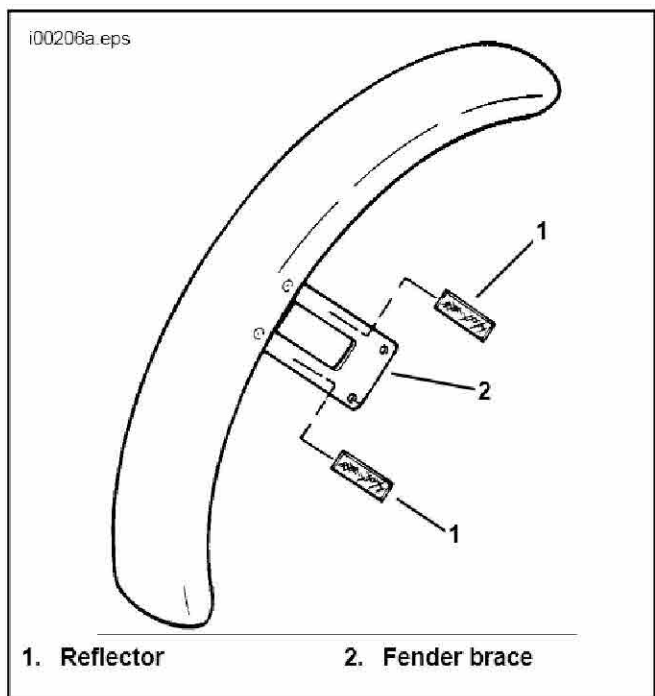

Figure 11. Reflector Installation
On all 1991 and later XLH models, the reflector on the left front frame downtube may interfere with the oil cooler installation. See Figure 11. Remove the reflector from the left front frame downtube and install two of the reflectors from kit on the left front fender brace. The remaining two reflectors may be installed on the right front fender brace.
10. See Figure 11. Remove wax and dirt from fender brace. Remove paper backing from reflector(s) and press reflector(s) vertically onto fender brace(s). If desired, repeat this procedure on opposite side of fender.